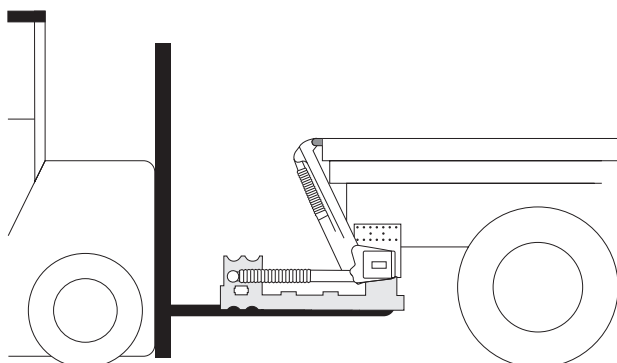

Figure 21. Use the lift's packaging and a forklift
6. The support frame should be positioned as high as possible within the specified C dimension. Adjust the frame to the ideal height under the chassis. Use the lift's packaging and a forklift. See Figure 21. The frame must be positioned parallel with the floor of the vehicle body and must not be in contact with the vehicle frame; there must be a few millimetres of play. If necessary, adjust the angle of the arms by carefully operating the lift.